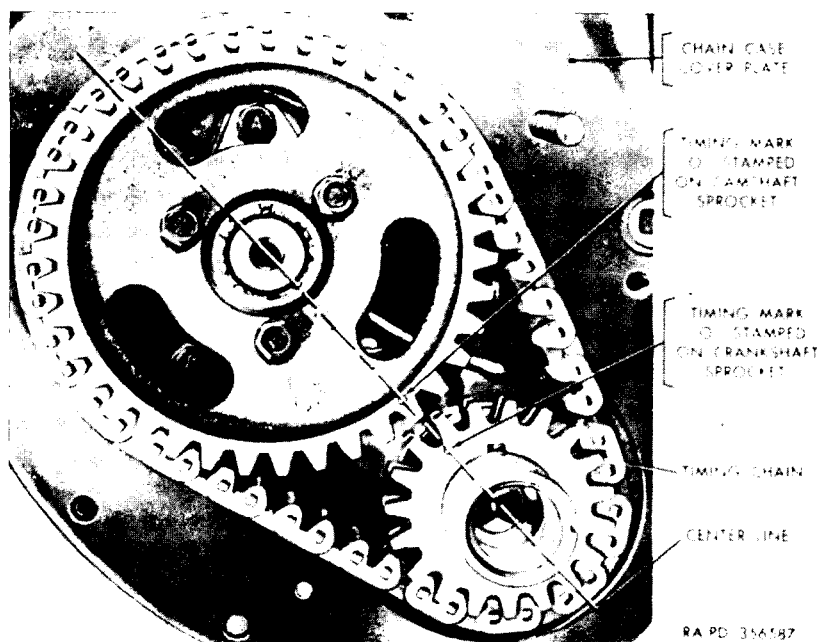

Figure 88. Timing chain and sprocket installation.
- (2) Install the correct adapter in the camshaft front bearing and start the front bearing in its bore.
- (3) Insert the installer shaft through all three adapters and install a horseshoe collar forward to the front adapter.
- (4) Drive the camshaft front bearing into place with the sliding hammer of the tool, making sure that the oil holes are in alignment.
- (5) Remove the installer shaft but leave the front and rear adapters in the bores to guide the shaft when installing camshaft intermediate bearing.
- (6) Place the adapter in the camshaft intermediate bearing and start the bearing in its bore. Install the horseshoe collar forward of the adapter and drive the bearing into place.
- (7) Remove the installer shaft and number three adapter.
- (8) Place camshaft rear bearing in the adapter and drive it into place with the same procedure used on the other bearings.
e. Install Camshaft Sprocket and Timing Chain (fig. 88). Turn the crankshaft so that the mark "O" on the face of the crankshaft sprocket is directly in line with the crankshaft and camshaft centers. Place the camshaft sprocket on its hub and install two cap screws tem-